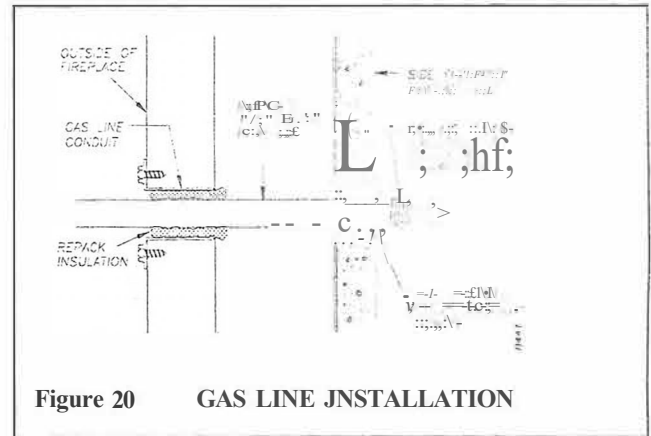

Figure 20 GAS LINE INSTALLATION
STEP 3: Run a 1/2 inch black iron gas line into the fireplace through the rear at gas line conduit sleeve (if using a raised platform, add height). Provide sufficient gas line into fireplace chamber for fitting connection (see figure 20).